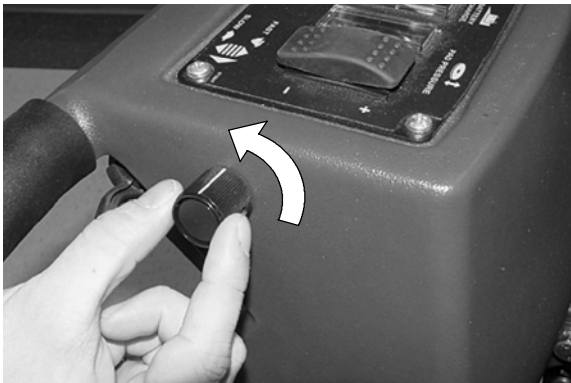

FIG. 12
2. Turn the speed control knob to the slowest setting. This will prevent an abrupt take off (Figure 12).